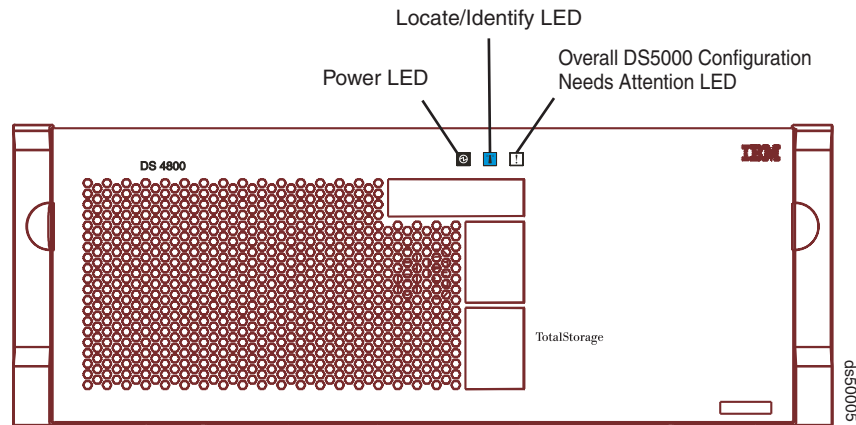

Figure 115. Overall Configuration Needs Attention LED on the DS5100 and DS5300 front bezel
2. Locate the storage subsystem that contains the failed power supply and fan unit by checking the Overall Configuration Needs Attention LED on the front bezel of the storage subsystem. (Figure 115 on page 185 shows the location of the Overall Configuration Needs Attention LED on the front bezel.)